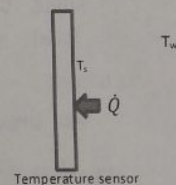

Figure 2
- 2) Write the time dependent first Law for your temperature sensor using Figure 2.